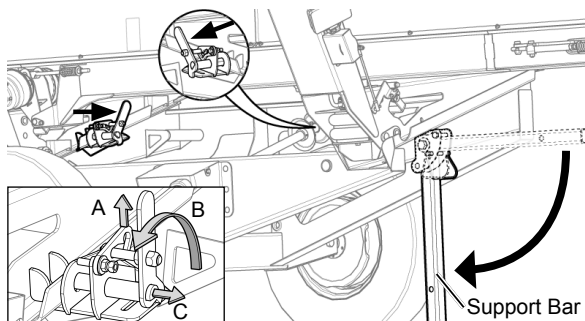

Fig. 26 - Unlock Transport & Lower Support Bar
6. Lower the transport support bar and lock in place with its pin. (see Fig. 26)
7. Locate the two lock pins on the top of the transport cart. Release each lock pin by first lifting up on the pin lock (A), then pull the handle back towards the rear of the header (B) then pull the lock pin out from between its lock ribs (C).